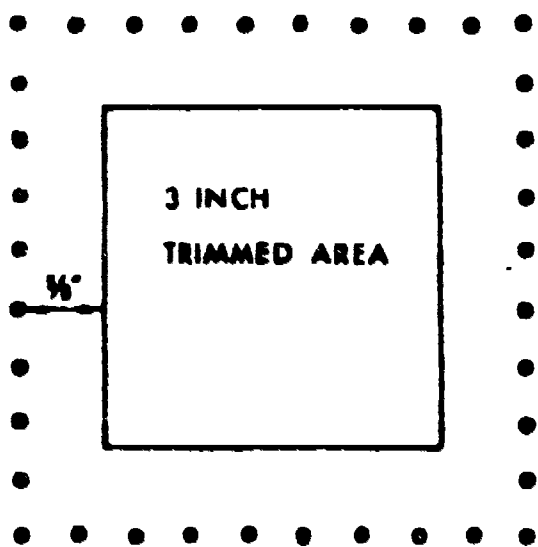

Figure 3. Step One.
3. Measure out $5/8$ " from the trimmed area (Figure 3).